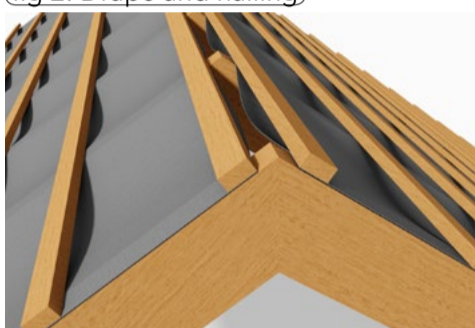

fig 6: Ridge ventilation
7. Where ridge ventilation is not being provided, the Danelaw LR150 should extend over the ridge and overlap the underlay on the opposite side of the roof by the required amount (table 1). When being used in conjunction with ridge ventilation, the underlay should be cut or terminated on either side of the ridge line and secured to ensure that the ventilation path remains clear along the length of the ridge (fig. 6).